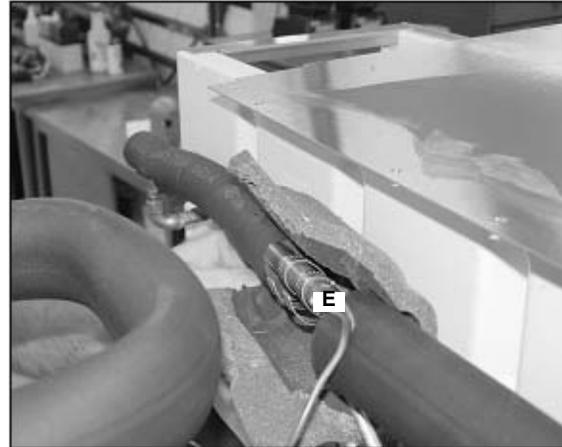

Figure 45.
48. Once the system has passed a leak test, cover the expansion valve bulbs (E) with the insulation kit (Figure 45).